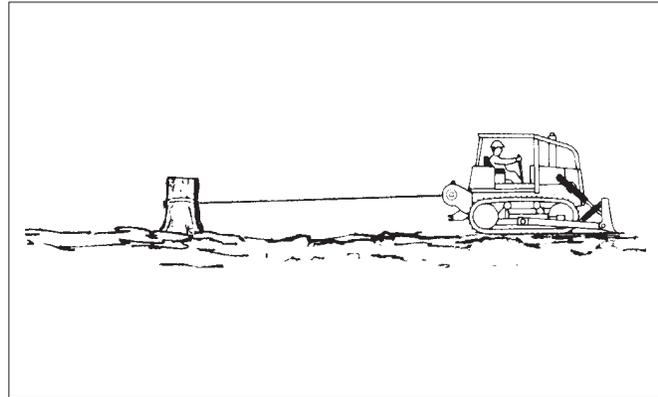

Figure 19 - Moving a Disabled Vehicle (Step A)
**A.** A tractor or skidder often travels in areas where traction conditions are bad. A vehicle equipped with a winch can be used to remove itself from mud or other areas where it cannot move using only the drive wheels or tracks. See Figure 19. Use the following procedure: